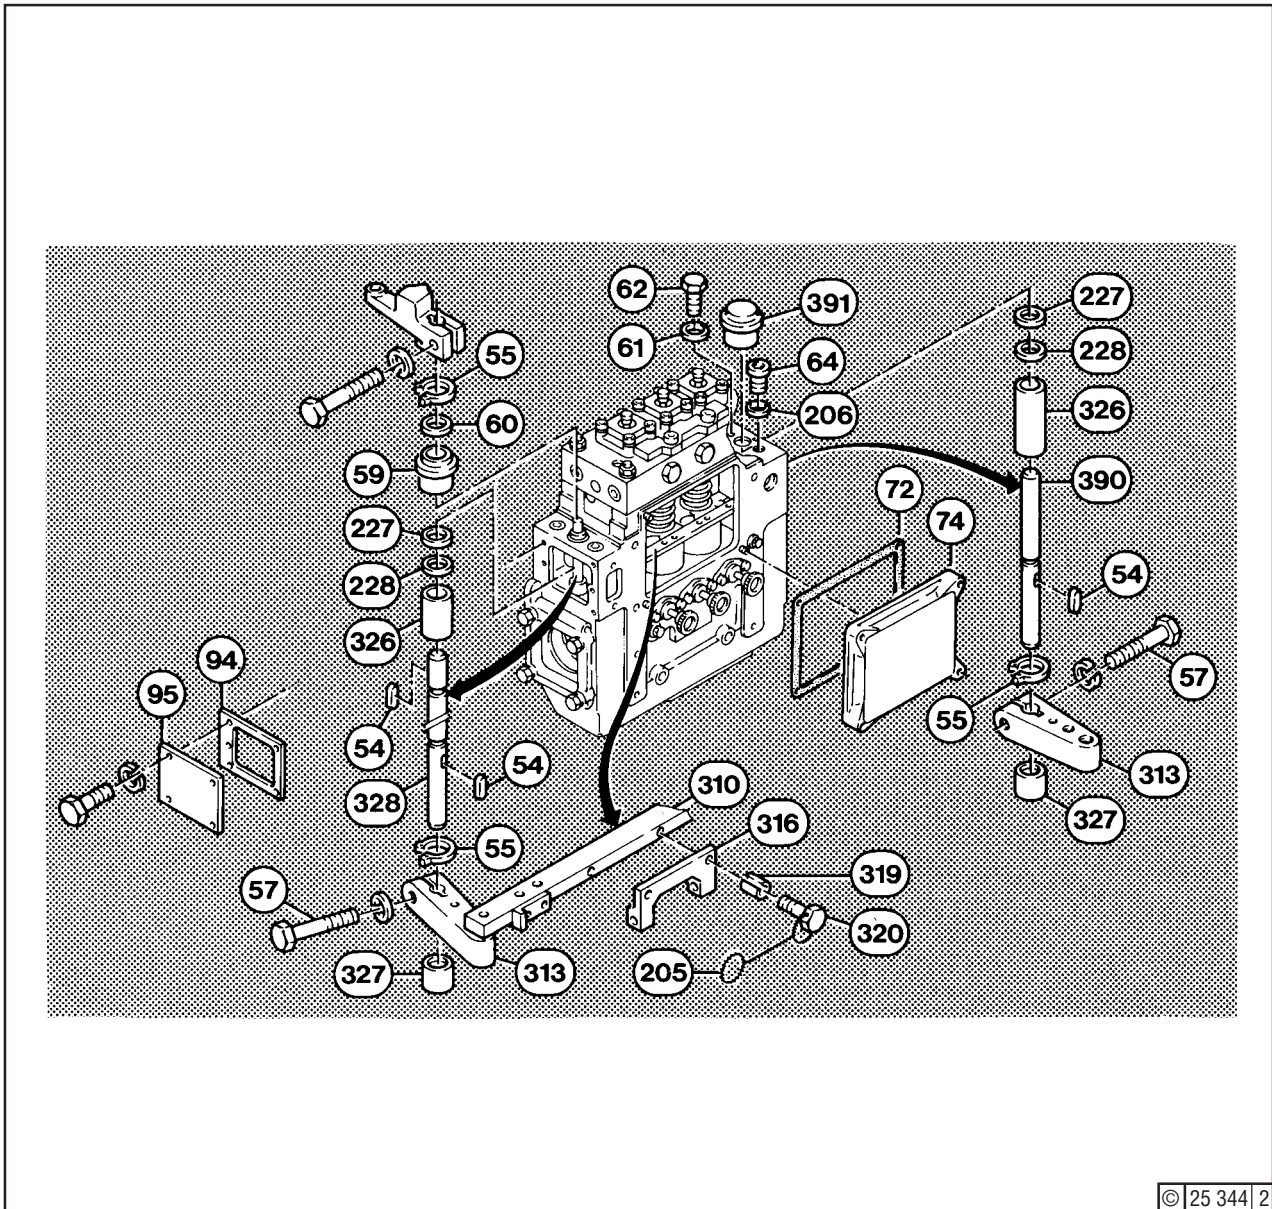

Fig. 2
Lead-seal hex. bolts (320) - Fig. 2, if possible. Otherwise have the bolts lead-sealed at the nearest Deutz Service Station.